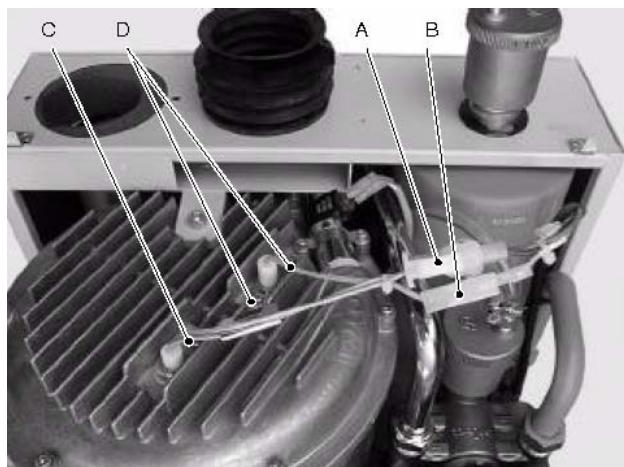

Fig. 31
- 2 Disconnect the connector A (glow plug) or B (ionisation rod) (Fig. 31).